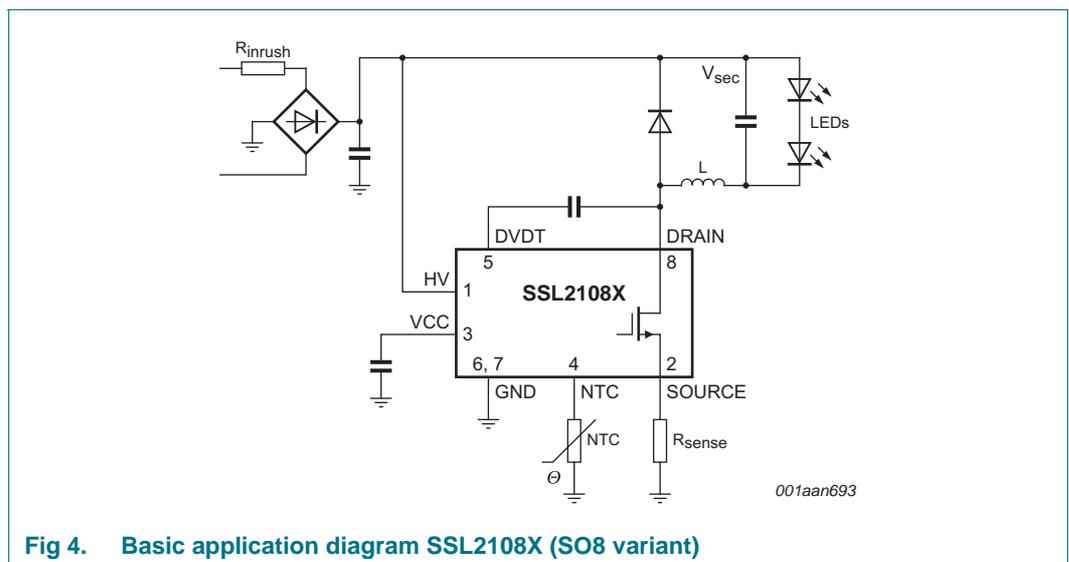
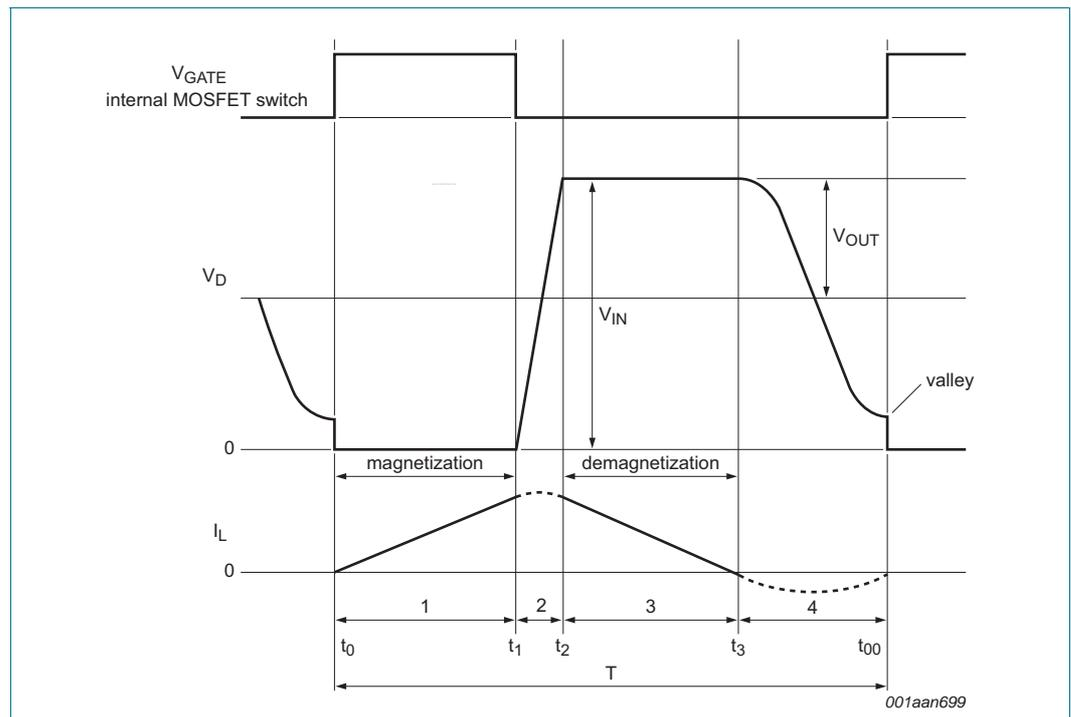

Fig 4. Basic application diagram SSL2108X (SO8 variant)
Fig 5. Buck waveforms and valley detection
- Low component count (see Figure 4) LED driver solution:
The converter in the SSL2108X is a Boundary Conduction Mode (BCM), peak current controlled system. For the basic application diagram see Figure 4, for the waveforms see Figure 5. This converter type operates at the boundary between continuous and discontinuous mode. Energy is stored in inductor L each period that the switch is on. The inductor current I_L is zero when the internal MOSFET switch is switched on. Thereafter, the amplitude of the current build-up in L is proportional to $V_{IN} - V_{OUT}$ and the time that the internal MOSFET switch is on. When the internal MOSFET switch is switched off, the current continues to flow through the freewheel diode and the output capacitor. The current then falls at a rate proportional to the value of V_{OUT} . The LED current I_{LED} is almost equal to half the peak switch current. A new cycle is started, as soon as the inductor current I_L is zero.
A new cycle is started when the primary switch is switched on (see Figure 5). Following time t_1 , when the peak current is detected on the SOURCE pin, the switch is turned off and the secondary stroke starts (3). When the secondary stroke is complete and the coil current at t_3 equals zero, the drain voltage starts to oscillate around the $V_{IN} - V_{OUT}$ level. The amplitude equals V_{OUT} . A special feature, called valley detection is an integrated part of the SSL2108X circuitry. Dedicated built-in circuitry connected to the DRAIN pin, senses when the voltage on the drain of the switch has reached its lowest value. The next cycle is then started and as a result the capacitive switching losses are reduced. A valley is detected and accepted if both the frequency of the oscillations and the voltage swing are within the range specified (f_{ring} and $\Delta V_{vrec(min)}$) for detection. If a valid valley is not detected, the secondary stroke is continued until the maximum off-time ($t_{off(high)}$) is reached, then the next cycle is started.